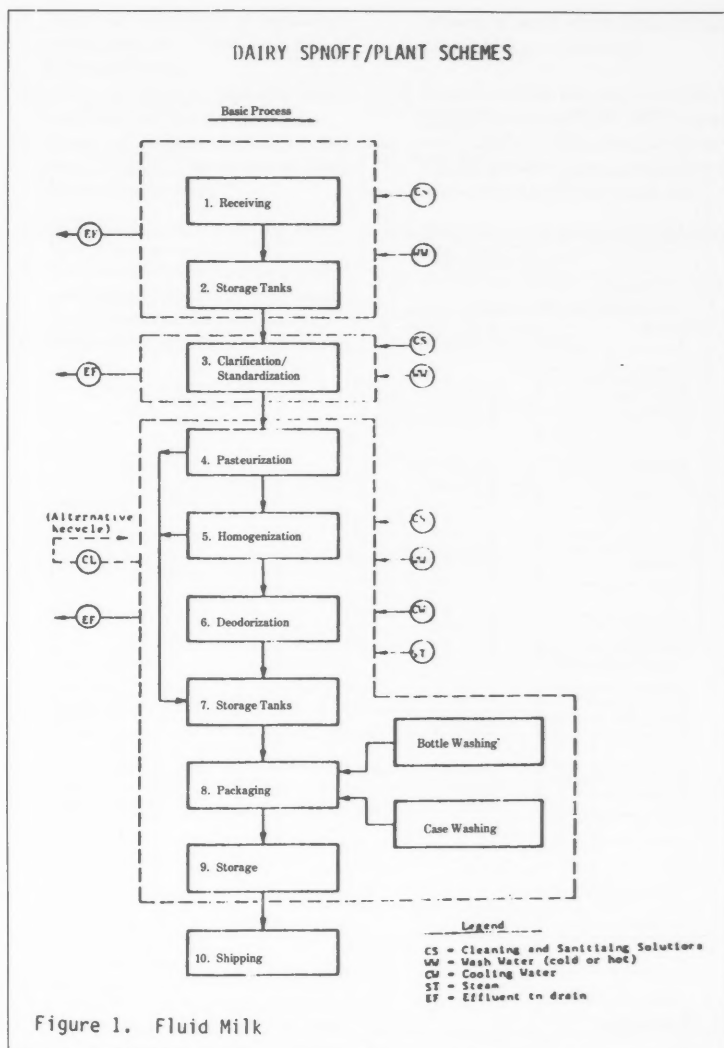

Figure 1. Fluid Milk
Determination of the significant sources of dairy food plant wastes requires an understanding of the processing of dairy foods, the various unit operations and their potential role as sources of wastewater, milk solids and refractory compounds. Typical market milk flow diagrams are presented in Figures 1, 2 and 3. Figures 1 and 2 identify the specific plant processes and relate these processes to the point sources and nature of the waste generated. Figure 3 shows the volume and organic strength of the wastewater generated, based on the plant's processing activity and amount of milk being processed. Values reflect average in-plant waste management practices.
In Figures 1 and 2, piping associated with a unit process is considered to be an integral part of that operation. For example, the waste generating process of the tank truck washing operation would include all pumps and piping in the receiving room; or cleaning of the raw storage tanks would include the associated raw milk pumps, valves and lines (3).